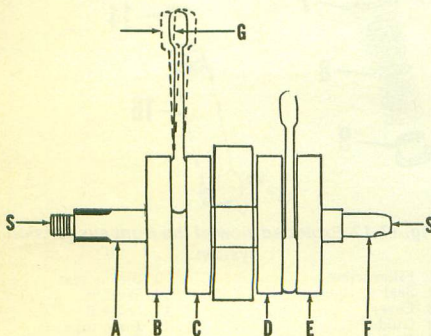

Fig. Y7-15—Refer to text for checking crankshaft for correct assembly or wear.
crankshaft apart. The crankshaft should be disassembled **ONLY** if required tools are available to correctly check and align the reassembled crankshaft. If side shake (G—Fig. Y7-15) at piston pin end of connecting rod exceeds 2MM (0.08 in.), the connecting rod, crankpin and lower bearing should be renewed. Shake (G) should be 0.8-1.0MM (0.032-0.039 in.). Side clearance of connecting rod between the crankshaft counter weights can be measured with a feeler gage. Side clearance should be 0.1-0.3MM (0.0039-0.012 in.). With crankshaft supported between lathe centers (S—Fig. Y7-15), maximum eccentricity